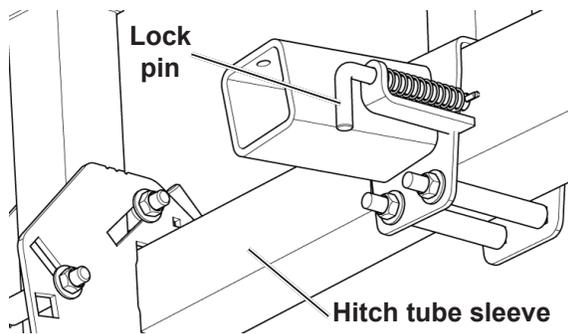

Fig. 43
4. Pull the Lock Pin on the hitch tube and slide the tube into the storage sleeve. Refer to Fig. 43. Attach the hitch safety chain to the storage stub as shown in Fig. 44.